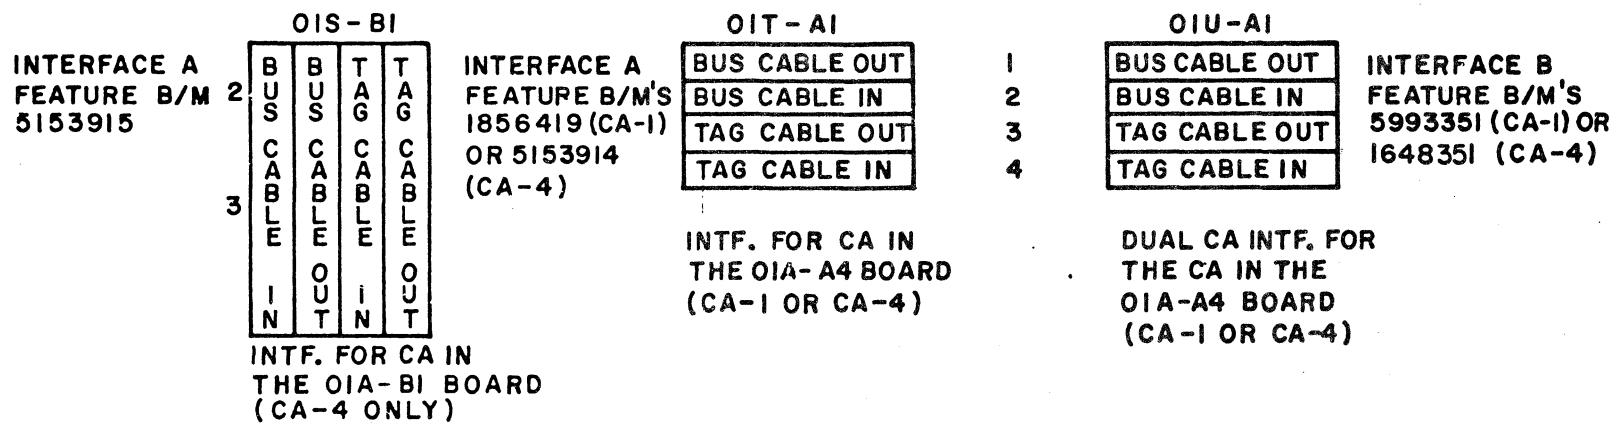

FIG.8.0
INSTALL THE EXTERNAL I/O CHANNEL INTERFACE CABLES PER FIG 8.0 BELOW. STICK-ON HEX LABELS, P/N 1770838, ARE PROVIDED IN THE SHIPPING GROUP FOR THE CHANNEL ADDRESS(ES) TO BE PLACED NEAR THE APPROPRIATE CHANNEL ENABLE/DISABLE SWITCH(ES) ON THE FRONT PANEL, IF THE CUSTOMER DESIRES THAT THE ADDRESS(ES) BE INDICATED ON THE PANEL.